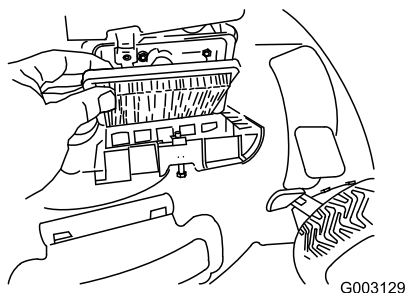

Figure 43
4. Install the cover (Figure 43).